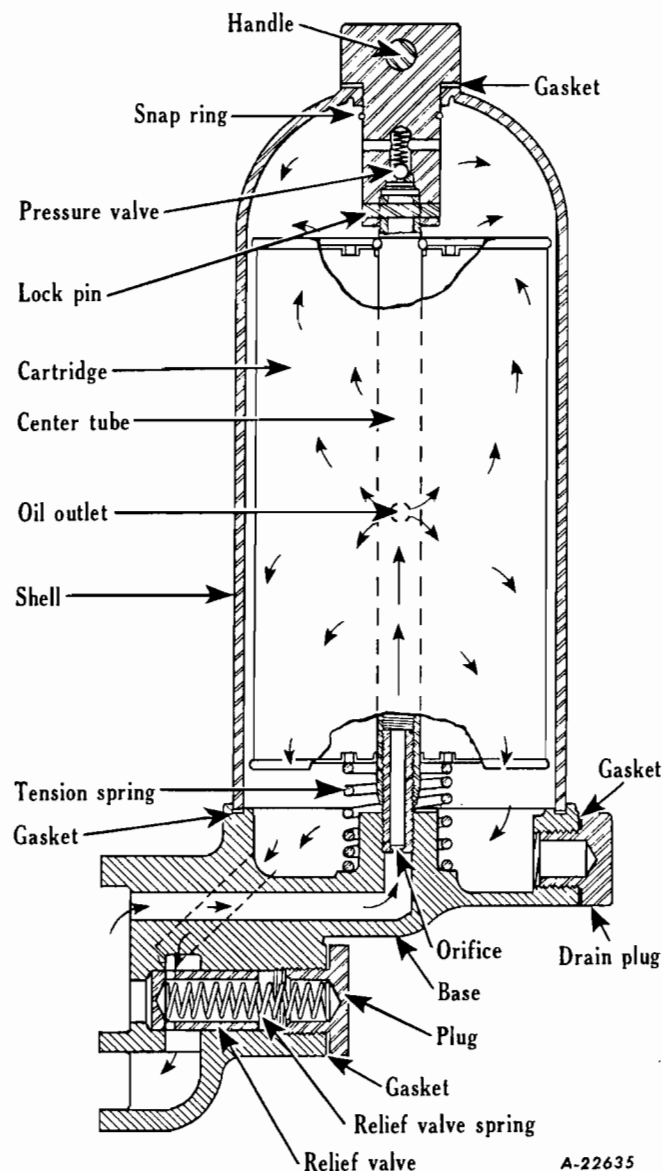

Fig. 58 - Michiana Oil Filter
1. The Michiana oil filter is used on the RD engines (Fig. 58). Oil from the engine is delivered by the oil pump into the filter